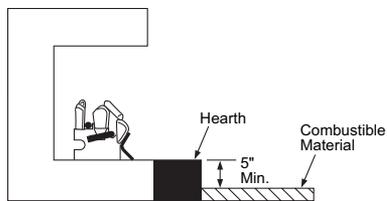

Figure 9 - Minimum Fireplace Clearances Above Combustible Flooring
- B. If combustible materials are less than 14" to the fireplace, you must install appliance at least 5" above the combustible flooring (see Figure 9, page 11).